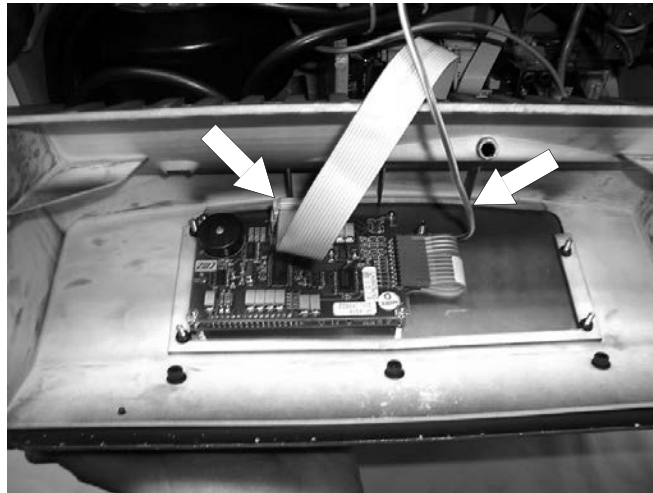

Fig. 140
- 3) detach the flat cable and ground wire from the keyboard (fig. 140).